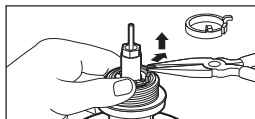

Figure P3
4. Next, place your thumb on one side of the retainer clip, and with a pair of pliers, grip the other side of the retainer clip. Pull away and upwards from your thumb, removing the clip from the base of the 3/4" threaded adapter. Then, remove the adapter (Figure P3).